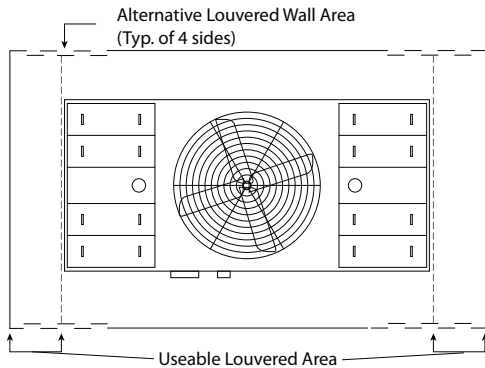

**Figure 8.** Plan View of Dual Air Intake Unit in Enclosure with Louvered Walls
- Units should be arranged within the enclosure such that the air intake directly faces the louver or slot locations as shown in **Figures 8 and 9**, with a minimum distance of three feet.
"e" - Distance usable louvered area may extend beyond unit length (L) as illustrated in **Figures 8 and 9**. The value for "e" is 1/2 the unit length (L), not to exceed 6'.